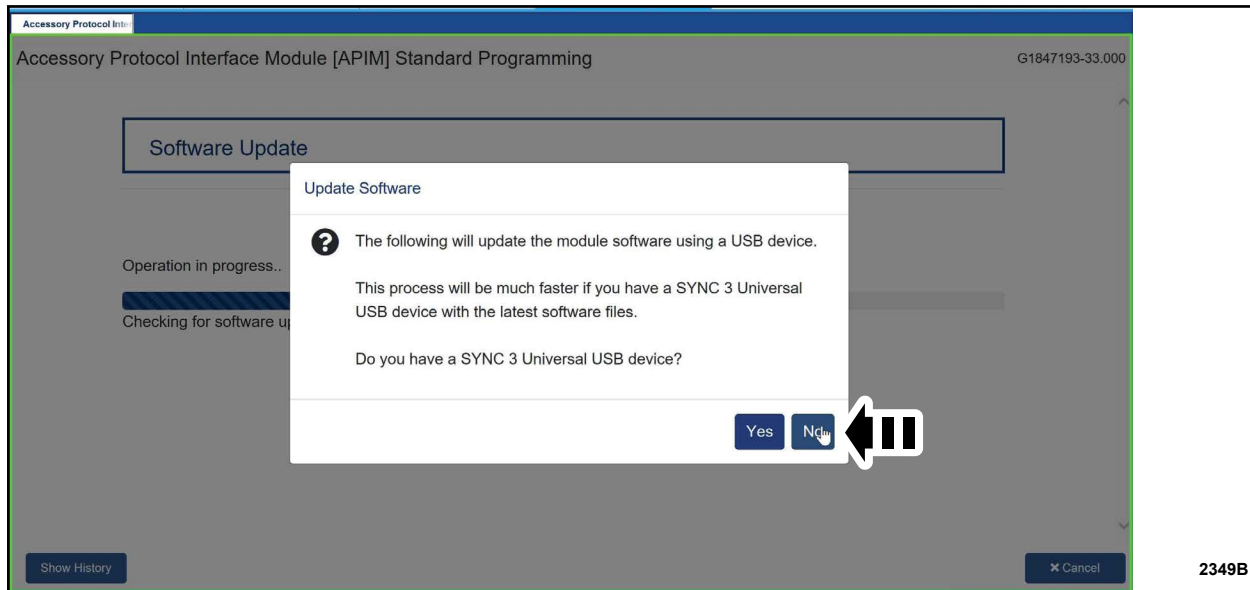

FIGURE 2
- During the update, make sure to click NO when asked: Do you have a SYNC 3 Universal USB device? See Figure 2.*